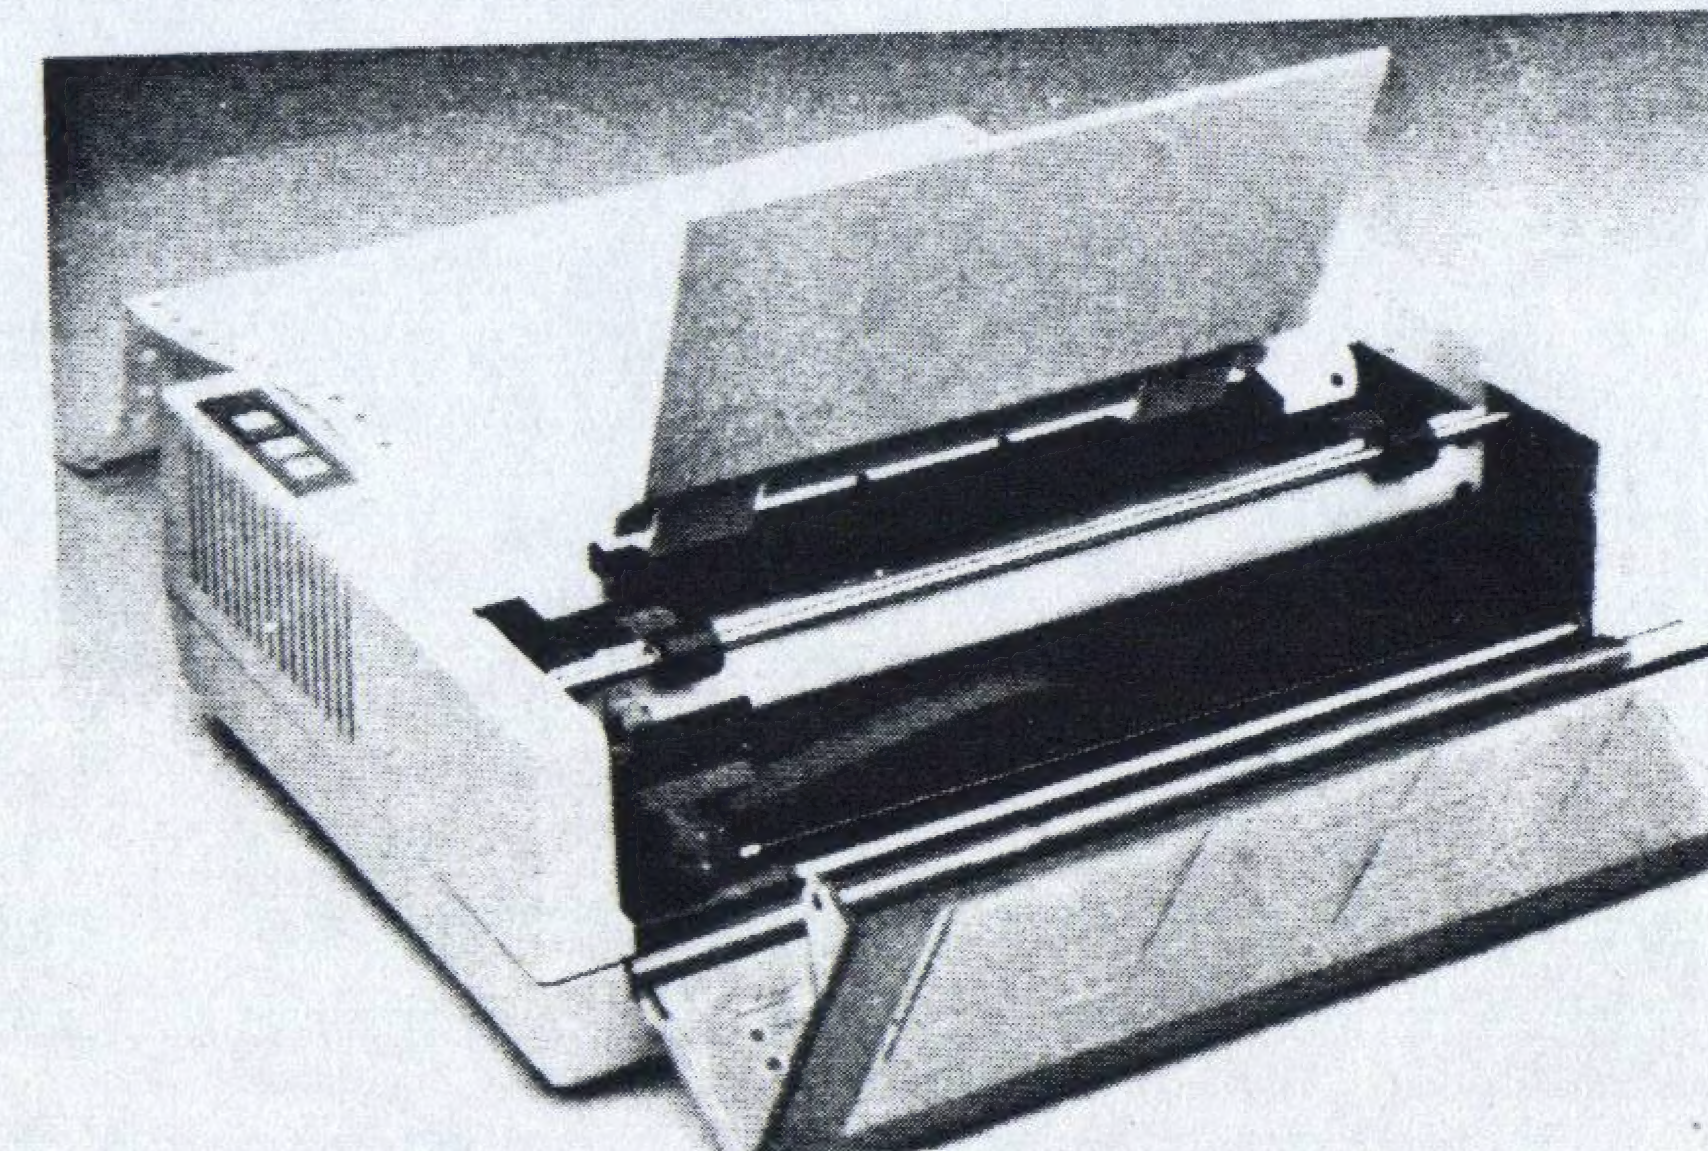

Figure 1-8 Fanfold Paper
- Slide the right-side pin wheel to align those pins with the holes in the right side of the paper as shown in Figure 1-8.